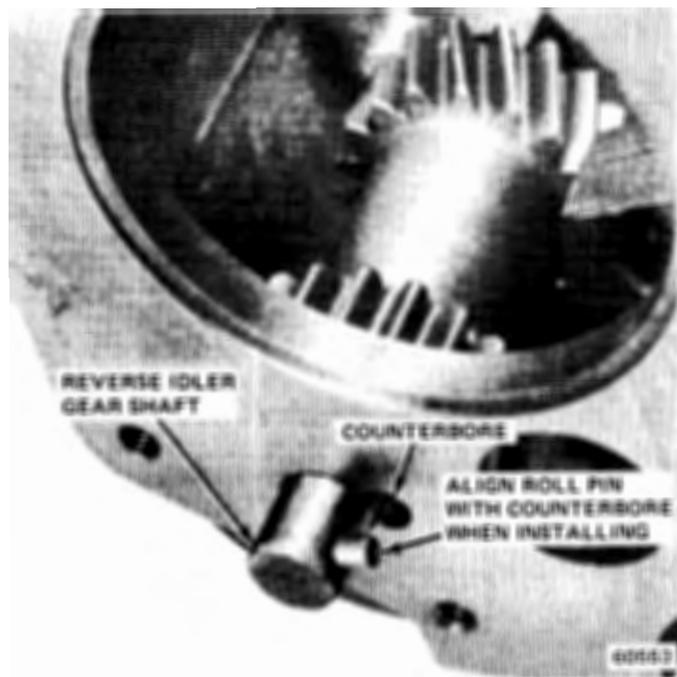

Fig. 6-8 Removing-Installing Reverse Idler Gear Shaft
(10) Remove main shaft assembly. Tilt spline end of main shaft downward and lift forward end of shaft upward and out of case.
(11) Remove countershaft gear and arbor tool as assembly. Remove countershaft gear thrust washers, countershaft roll pin, and any main shaft pilot roller bearings which may have fallen into case during clutch shaft removal.
(12) Remove reverse idle gear shaft. Insert brass drift through clutch shaft bore in front of case and tap shaft until end of shaft with roll pin clears counter-bore in rear of case (fig. 6-8), then remove shaft.
(13) Remove reverse idler gear and thrust washers from case.
(3) Install reverse idler gear. Align gear bore, thrust washers, case bores, and install reverse idler gear shaft from rear of case. Be sure to align and seat roll pin in shaft into counterbore in rear of case (fig. 6-8).
(4) Measure reverse idler gear end play by inserting feeler gauge between thrust washer and gear. End play should be 0.004 to 0.018 inch. If end play exceeds 0.018 inch, remove idler gear and replace thrust washers.